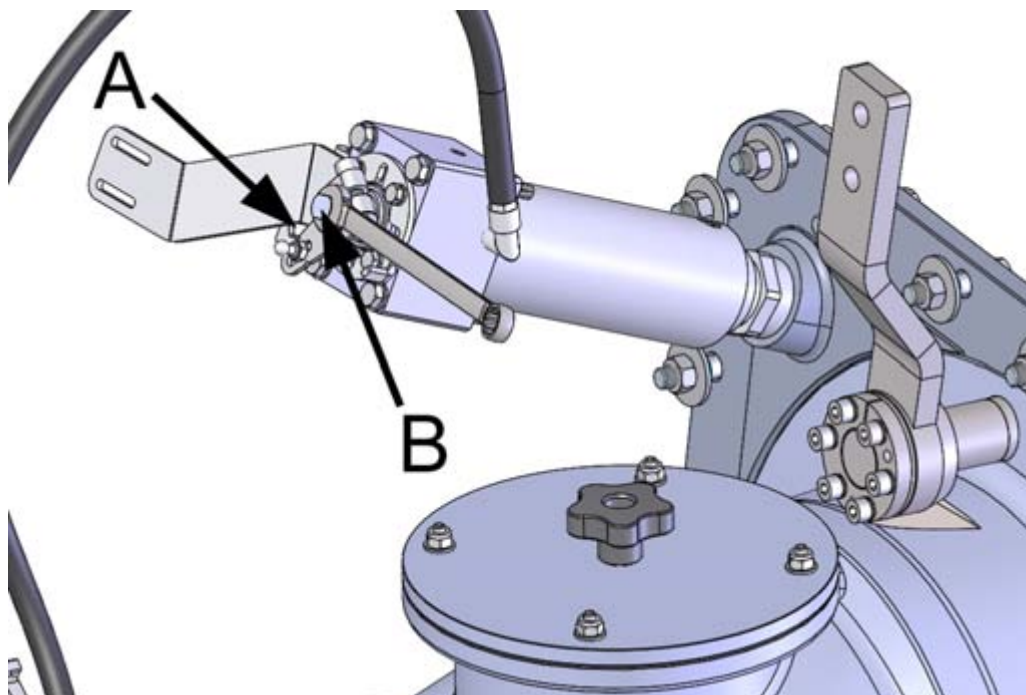

Figure 47. Operating shaft and limiter
3. Place the lever against the limiter on the shaft (figure 47, point A).
5. Using a 13 mm wrench, turn the operating shaft (figure 47, point B) clockwise so that the reversing deflector is in a downwards position, blocking the jet flow.